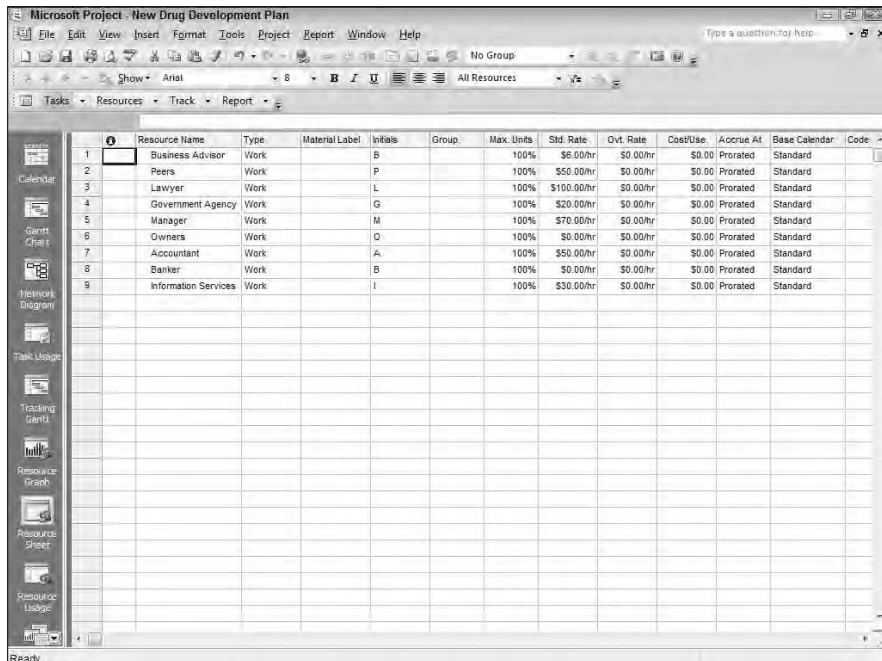

Figure 3-11: Resource Sheet view.
- ◆ **Resource Sheet** (see Figure 3-11) is a great view for entering resource information, including the type of resource, maximum units of work, standard and overtime rates, cost, and calendar.